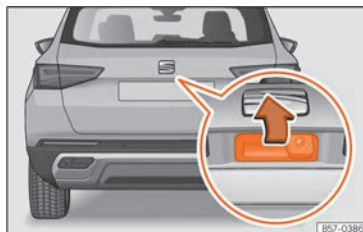

Fig. 59 Rear lid: opening from the outside.
- Open:** place slight pressure on the handle. The rear lid opens automatically. >>> Fig. 59.